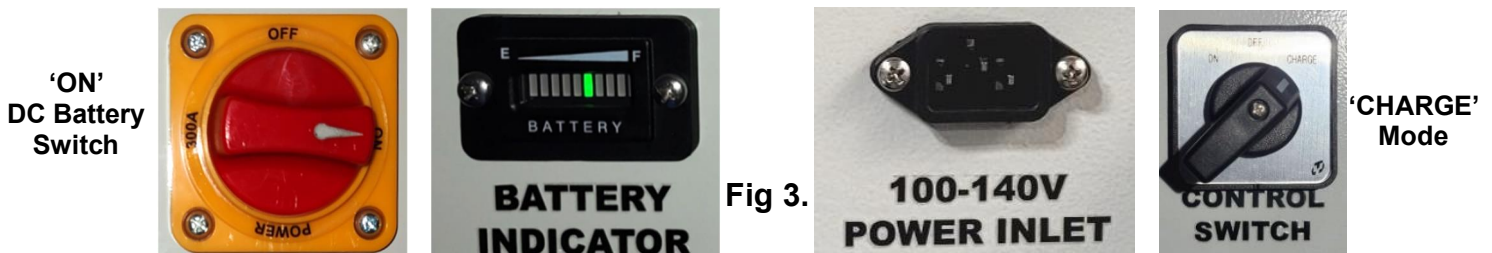

Fig. 3.
- The Lift Table includes an integrated **Battery Charger** inside the control box & **Battery Level Indicator** located on the control box panel. After the **DC Battery Switch** is turned **ON** the **Battery Indicator** will provide the battery level status output capacity. **Green bars** indicate normal battery level output, **Yellow bars** for low output & **Red bars** for warning to recharge battery. **Fig. 3 'left'**
- To **Charge** the **12VDC Battery**, use the included **AC Power Cable** to plug into the **Power Inlet** socket, then set the **Control Switch** to the **CHARGE** mode position. **Fig. 3 'right'**